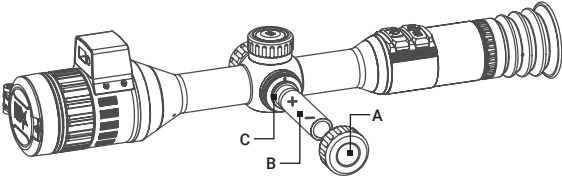

FIGURE 2-2. BATTERY INSTALLATION
1. Turn the battery cover (Figure 2-2, A) counterclockwise to open it.
2. Insert 18650 rechargeable battery (B) into the battery compartment (C) with the positive mark inward.